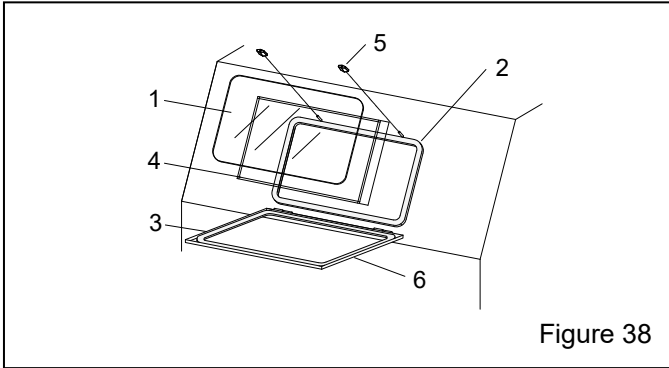

Figure 38
**9.5 View-Window Assembly – Figure 38**